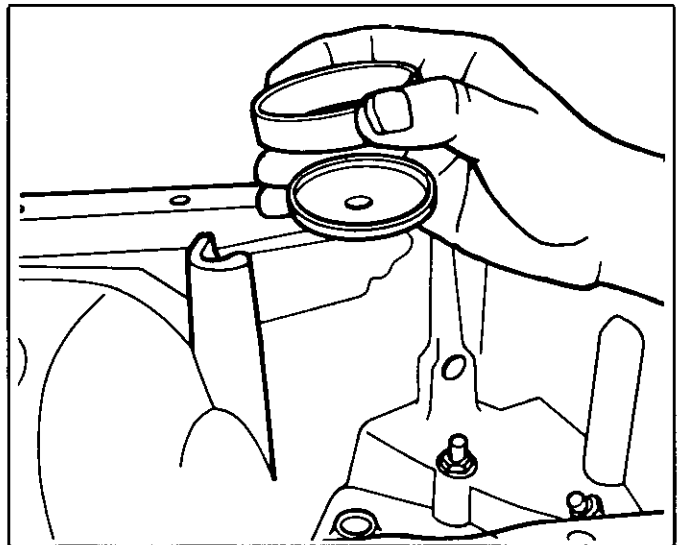

Figure 34 Removing Oil Slingers
3. Remove oil slingers (Figure 34).